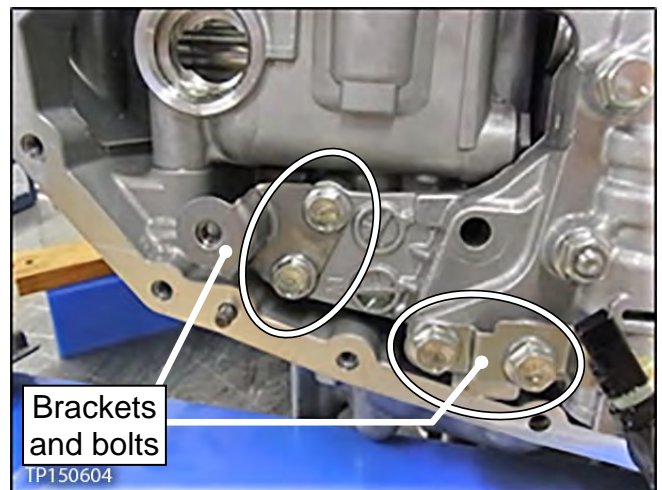

Figure 85
5. Install the oil strainer bracket with its two (2) bolts. See Figure 85.
6. Install the fluid temp sensor bracket with its two (2) bolts. See Figure 85.